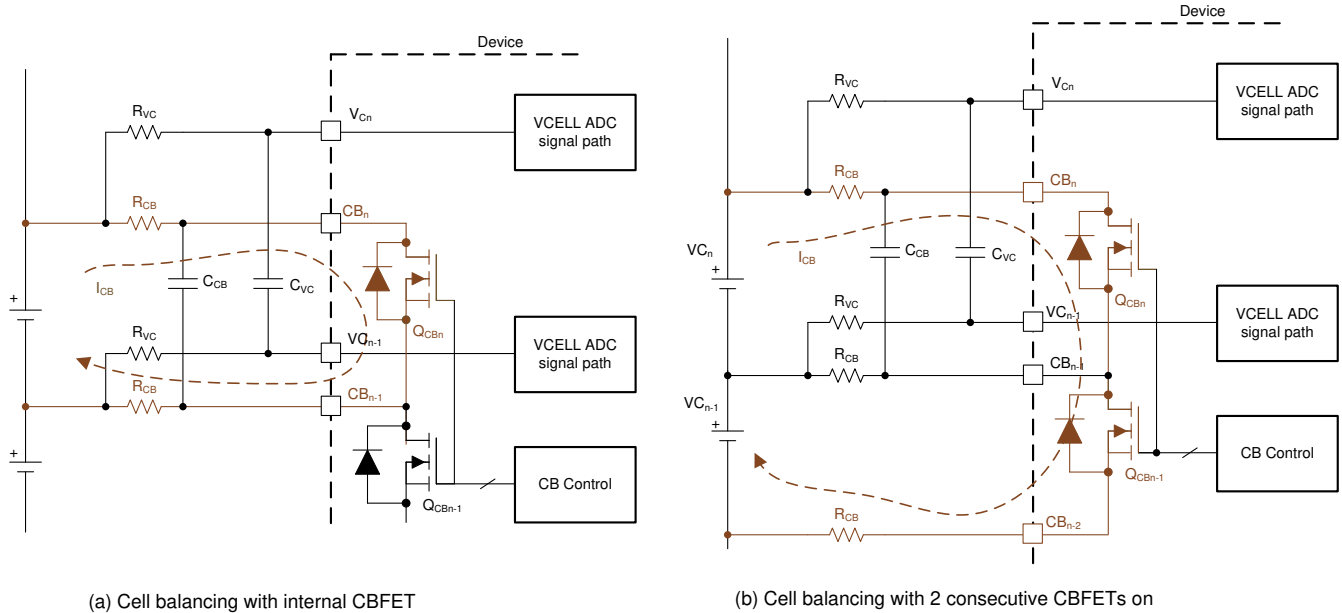

Figure 8-14. Internal Cell Balancing and the Flow of Balancing Current
- Balancing with no consecutive CBFET on (Figure 8-14 (a)): $I_{CB} = V_{Cell} / ((2 \times R_{CB}) + R_{dson_{QCB}})$
- Balancing with two consecutive CBFETs on (Figure 8-14 (b)): $I_{CB} = (\text{Sum of two } V_{CELL}) / ((2 \times R_{CB}) + R_{dson_{QCBn}} + R_{dson_{(QCBn-1)}})$
- Manual balancing control (`[AUTO_BAL] = 0`): With this method, the device will turn on the CBFETs that have non-zero balancing timer settings once `[BAL_GO] = 1` is received. There is no odd and even channel switching during the cell balancing and the `BAL_CTRL1[DUTY2:0]` setting does not apply under this control. Host MCU can enable two consecutive CBFETs with this method and a maximum of eight CBFETs can be enabled. When two consecutive CBFETs are enabled with both channels connected to battery cells, the balancing current is significantly different compared to no adjacent CBFET being on (Figure 8-14). The `DEV_CONF[NO_ADJ_CB]` bit is provided to avoid inadvertent enabling of an adjacent CBFET for a system that is not intended to have an adjacent channel on for balancing. In this control method, the device is relying on the MCU to enable the proper channels. If the MCU sends `[BAL_GO] = 1` but the CBFETs are enabled with an invalid condition, the device will not start balancing and will set `BAL_STAT[INVALID_CBCONF] = 1`. Invalid configurations are either: